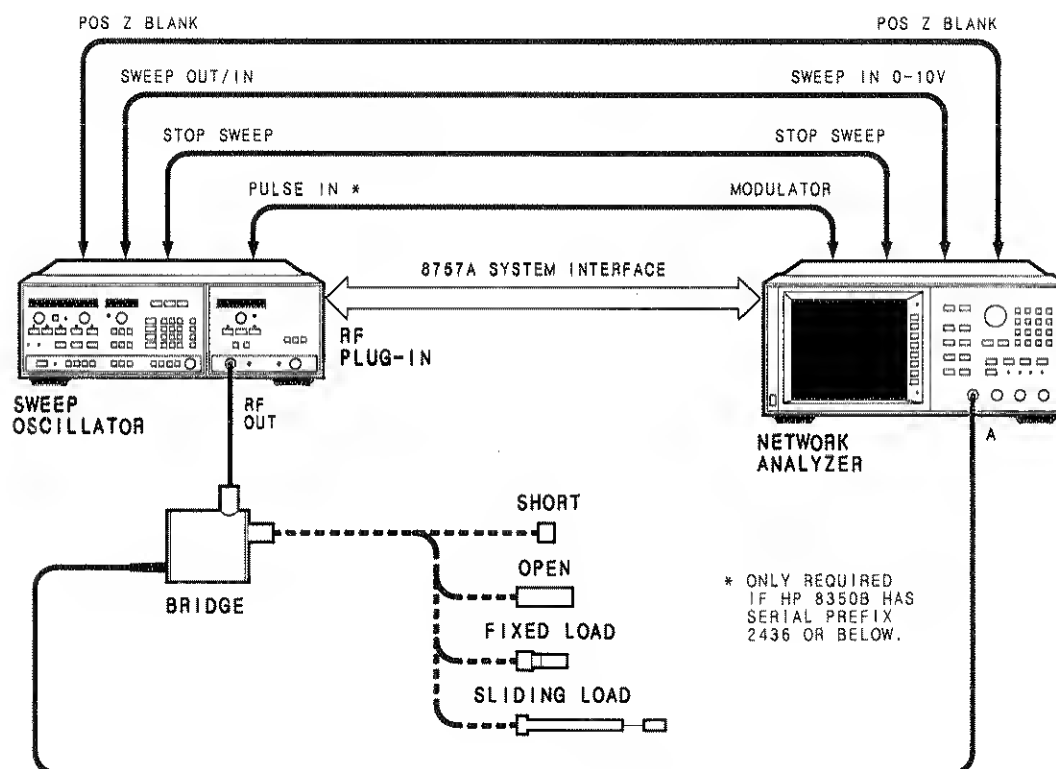

Figure 4-1. Directivity Performance Test Setup
1. Connect the equipment as shown in Figure 4-1. Do not connect anything to the bridge test port.
2. On the HP 8757A, press [PRESET] to configure the system. The HP 8757A PRESET will also (1) set the sweep time and turn on the modulation of the sweep oscillator and (2) turn on the RF output and set the power level of the RF plug-in. Do not reset the power level. Press the analyzer's softkey [CHAN 2 OFF] to turn off channel 2.